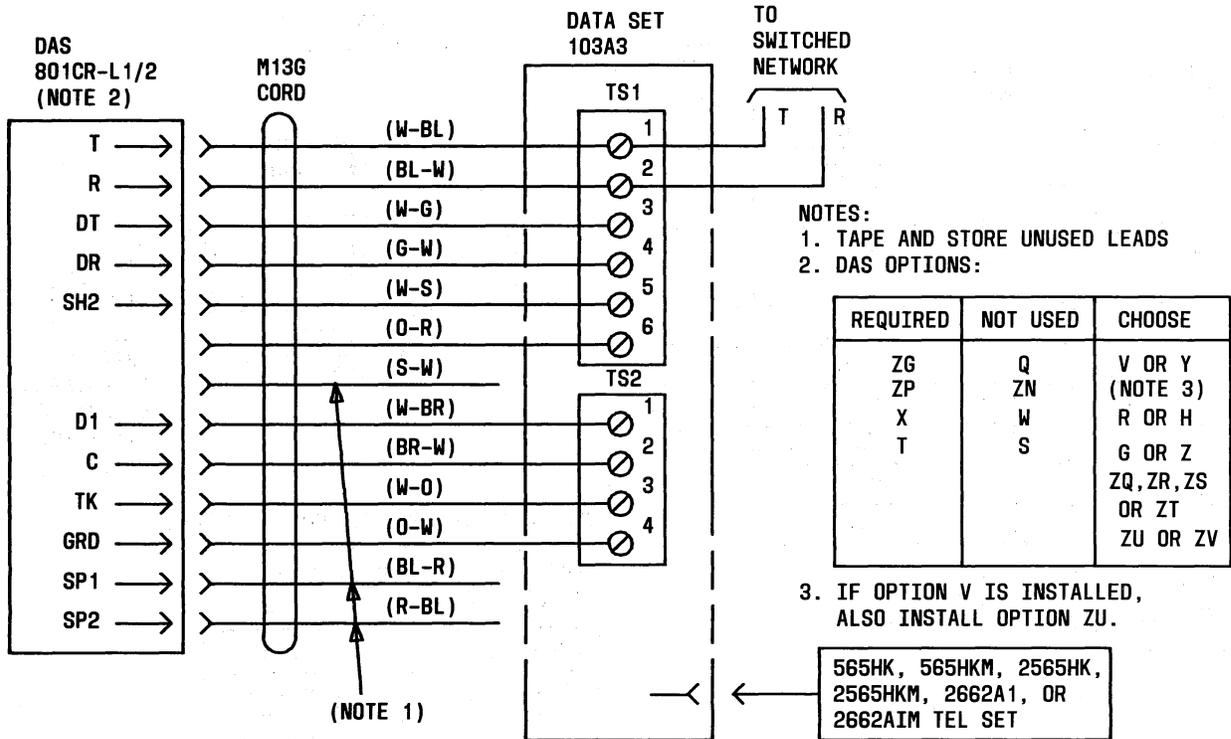

Fig. 9—ACU With Data Set 103A3
6.03 Nonregistered Arrangements: Figures 9 through 16 provide connection and option information for the ACU when used with the following nonregistered data sets and data coupler.
- Fig. 9—Data Set 103A3